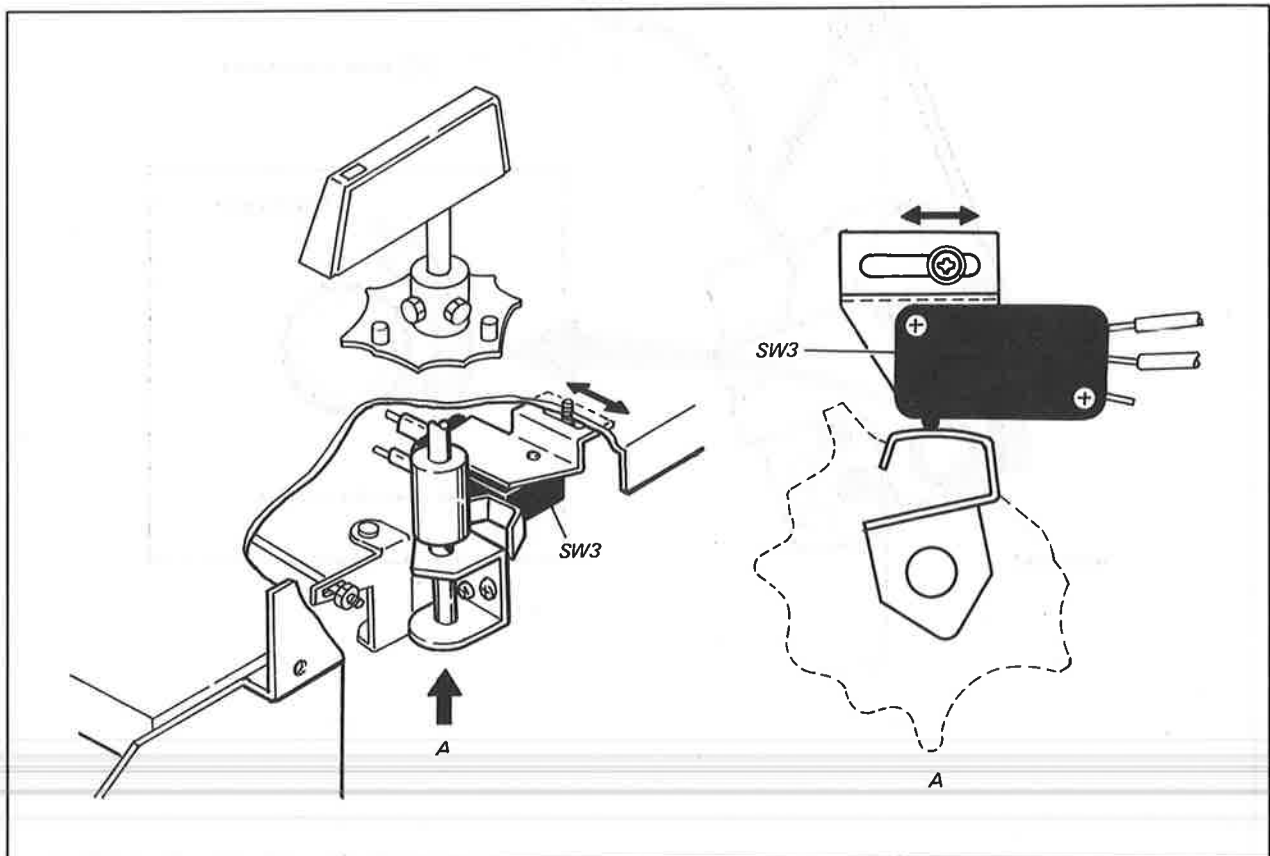

Fig. 4-25. Microswitch adjustment
1. Set the Function Lever to the STOP mode. Make sure that the switching button of the microswitch (SW3, under the chassis, beneath the Function Lever) is in the center of the cam. See Fig. 4-25. Note, the microswitch (SW3) turns off with the pushbutton pressed.